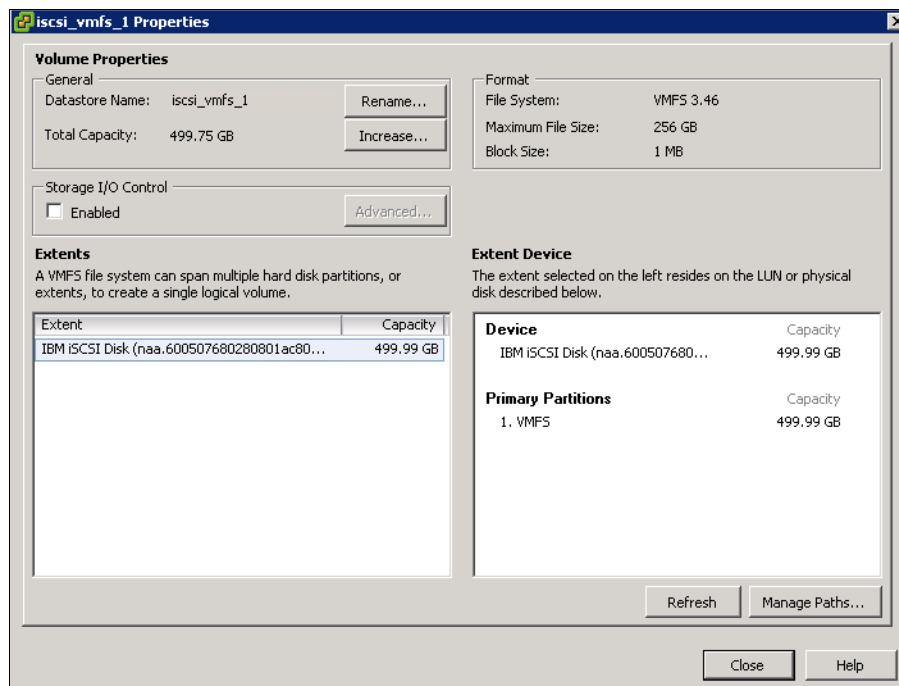

Figure 12-59 Data store properties
13. Highlight the new data store and click **Properties** to open and review the data store settings (Figure 12-59).